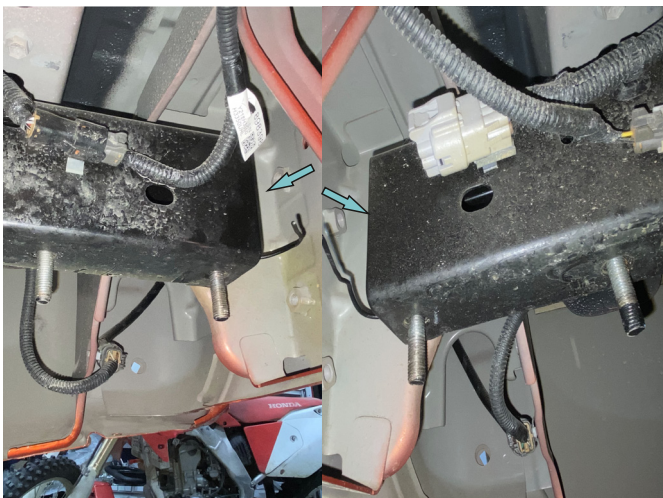

Fig. 9
9. Install insert bracket left (item 8) on driver's side and insert bracket right (item 9) on passenger's side (Fig. 9).